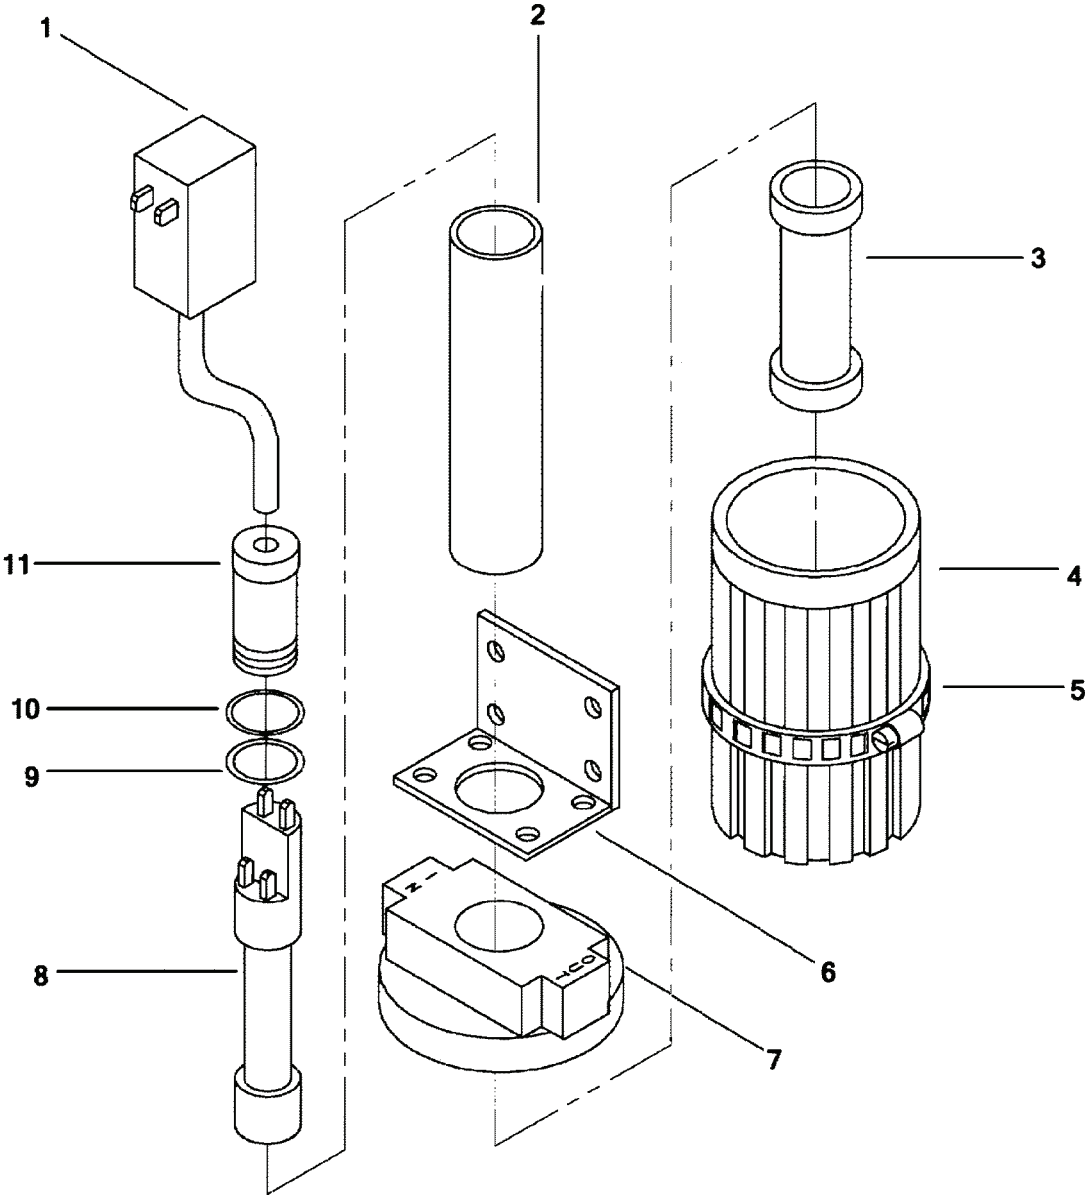

Figure 2-8. Ultraviolet (UV) Sterilizer.
## 2-15. Ultraviolet (UV) Sterilizer. (Figure 2-8)